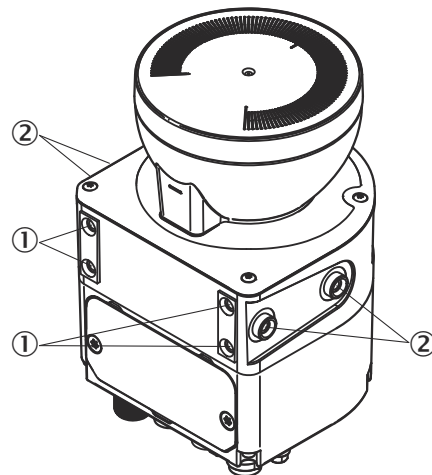

Figure 38: Mounting the safety laser scanner directly
- ① Rear M5 threaded hole
- ② Side M5 threaded hole
- ▶ Use either the rear or the side M5 threaded holes for direct mounting, see figure 38, page 64.